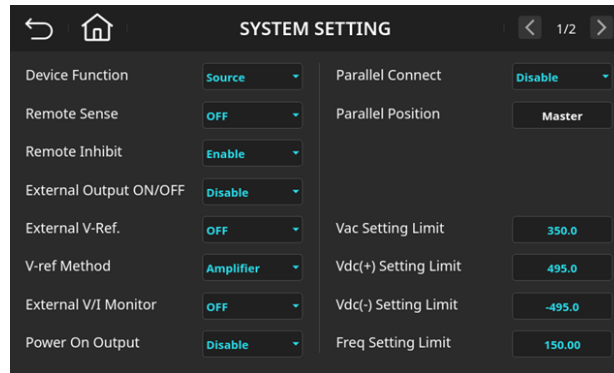

Figure 6-4 System Function Setting Page (Remote Inhibit = Enable)
2. Select “Enable” to activate the Remote Inhibit function, as shown in Figure 6-4.